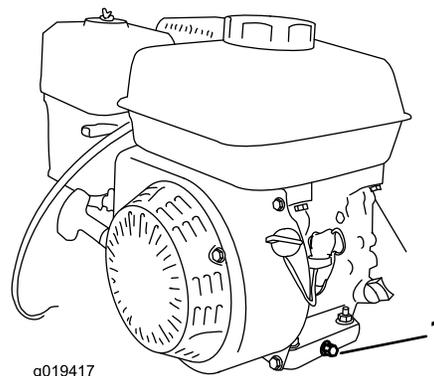

Figure 18
- Remove the drain plug (Figure 18).
4. Remove the gearcase plug (Figure 18).